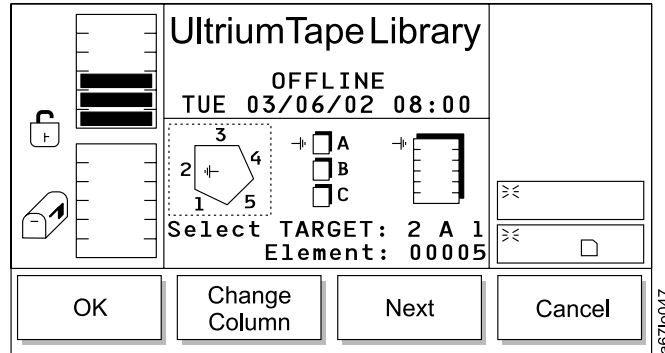

Figure 114. Position Picker Dialog
- If **Position Picker** is selected, the Position Picker Dialog displays (see Figure 114 on page 109).
- If **Next** is selected, the current source parameter changes from slot to column as shown in the Position Picker Dialog (see Figure 114 on page 109).